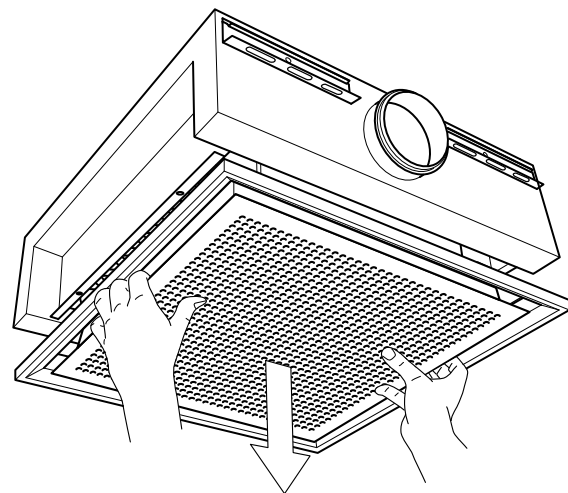

FIGURE 29
- 2) Lower and remove the front plate to access the coil. (See **FIGURE 29**)